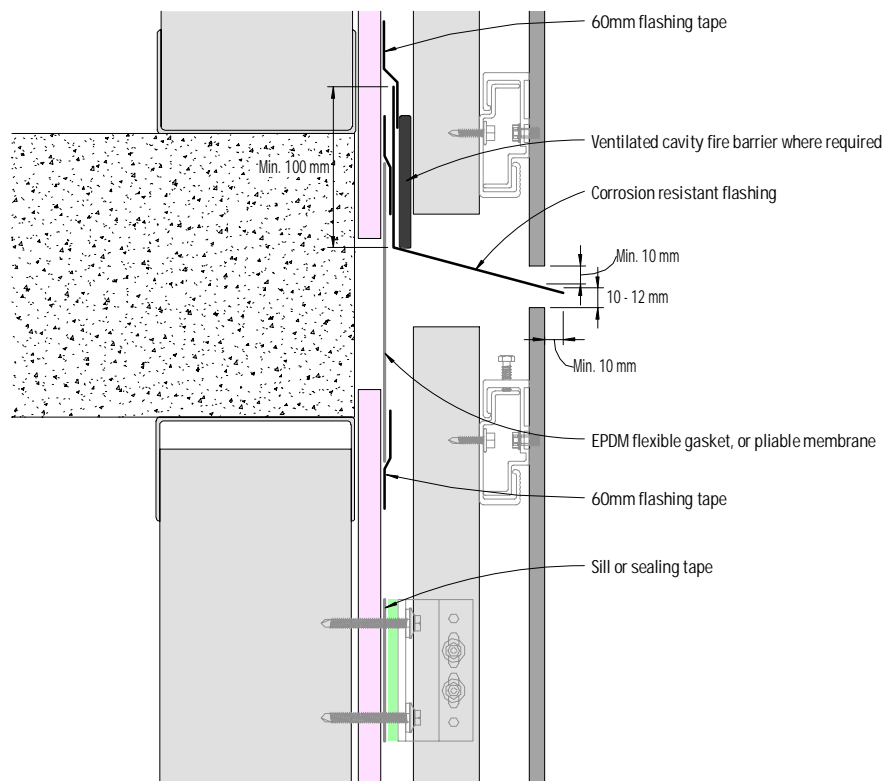

Figure 9: Horizontal control joint - Detail 2
- 3) In Figure 9, should a larger gap be required under the inter-storey flashing, the weatherproofing performance of the detail shall be evaluated by project engineer.